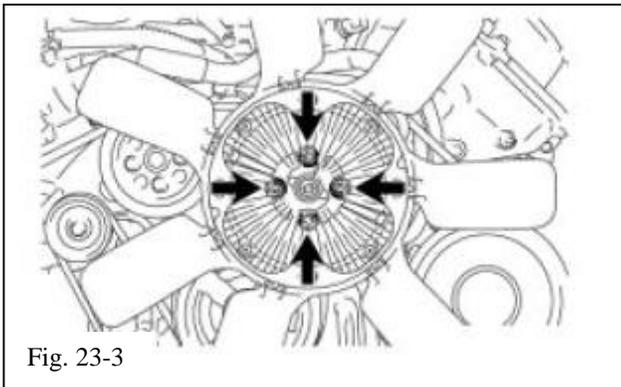

Fig. 23-3
- (e) Use the 4 OE nuts to attach the fan clutch to the fan pulley (Fig. 23-3).